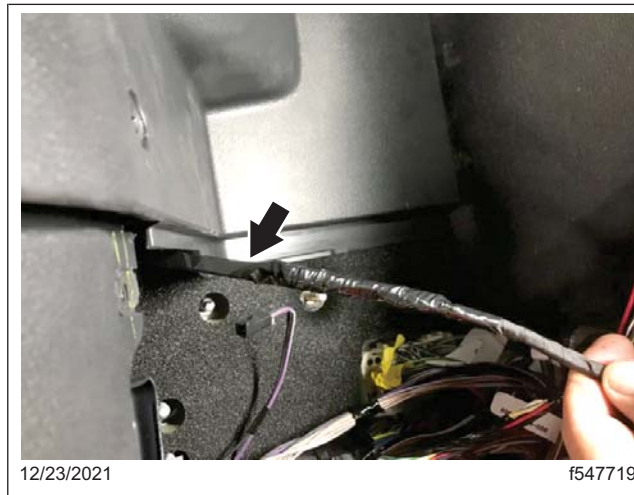

Fig. 14, End of Harness Taped to Cable Tie Inserted Through Grommet
7. Tape the end of the harness to the cable tie under the dash as shown in Fig. 14.